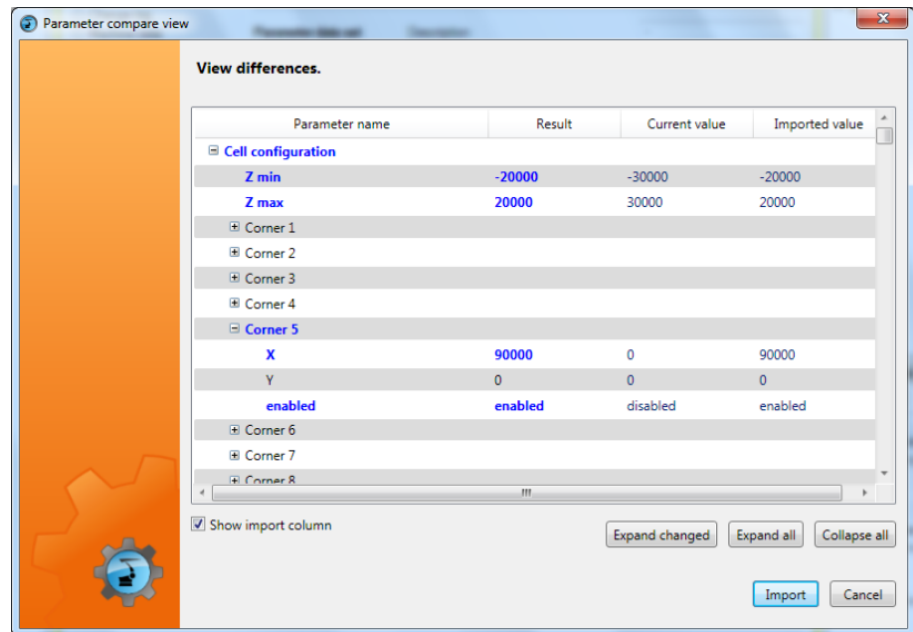

Fig. 7-2: Example: Displaying the differences
7. If no errors are present: the differences between the existing values and those to be imported are displayed in the Import window before the import is carried out. (>>> Fig. 7-2).